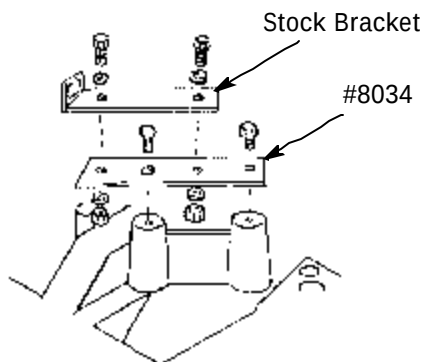

Figure 1 - Throttle Bracket Extension
1. Some vehicles will require a throttle bracket extension plate to move the stock throttle bracket forward. This extension is available as Edelbrock #8034 (See Fig. 1).